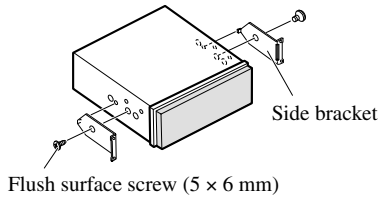

Fig. 9
2. Install side brackets. (Fig. 9)